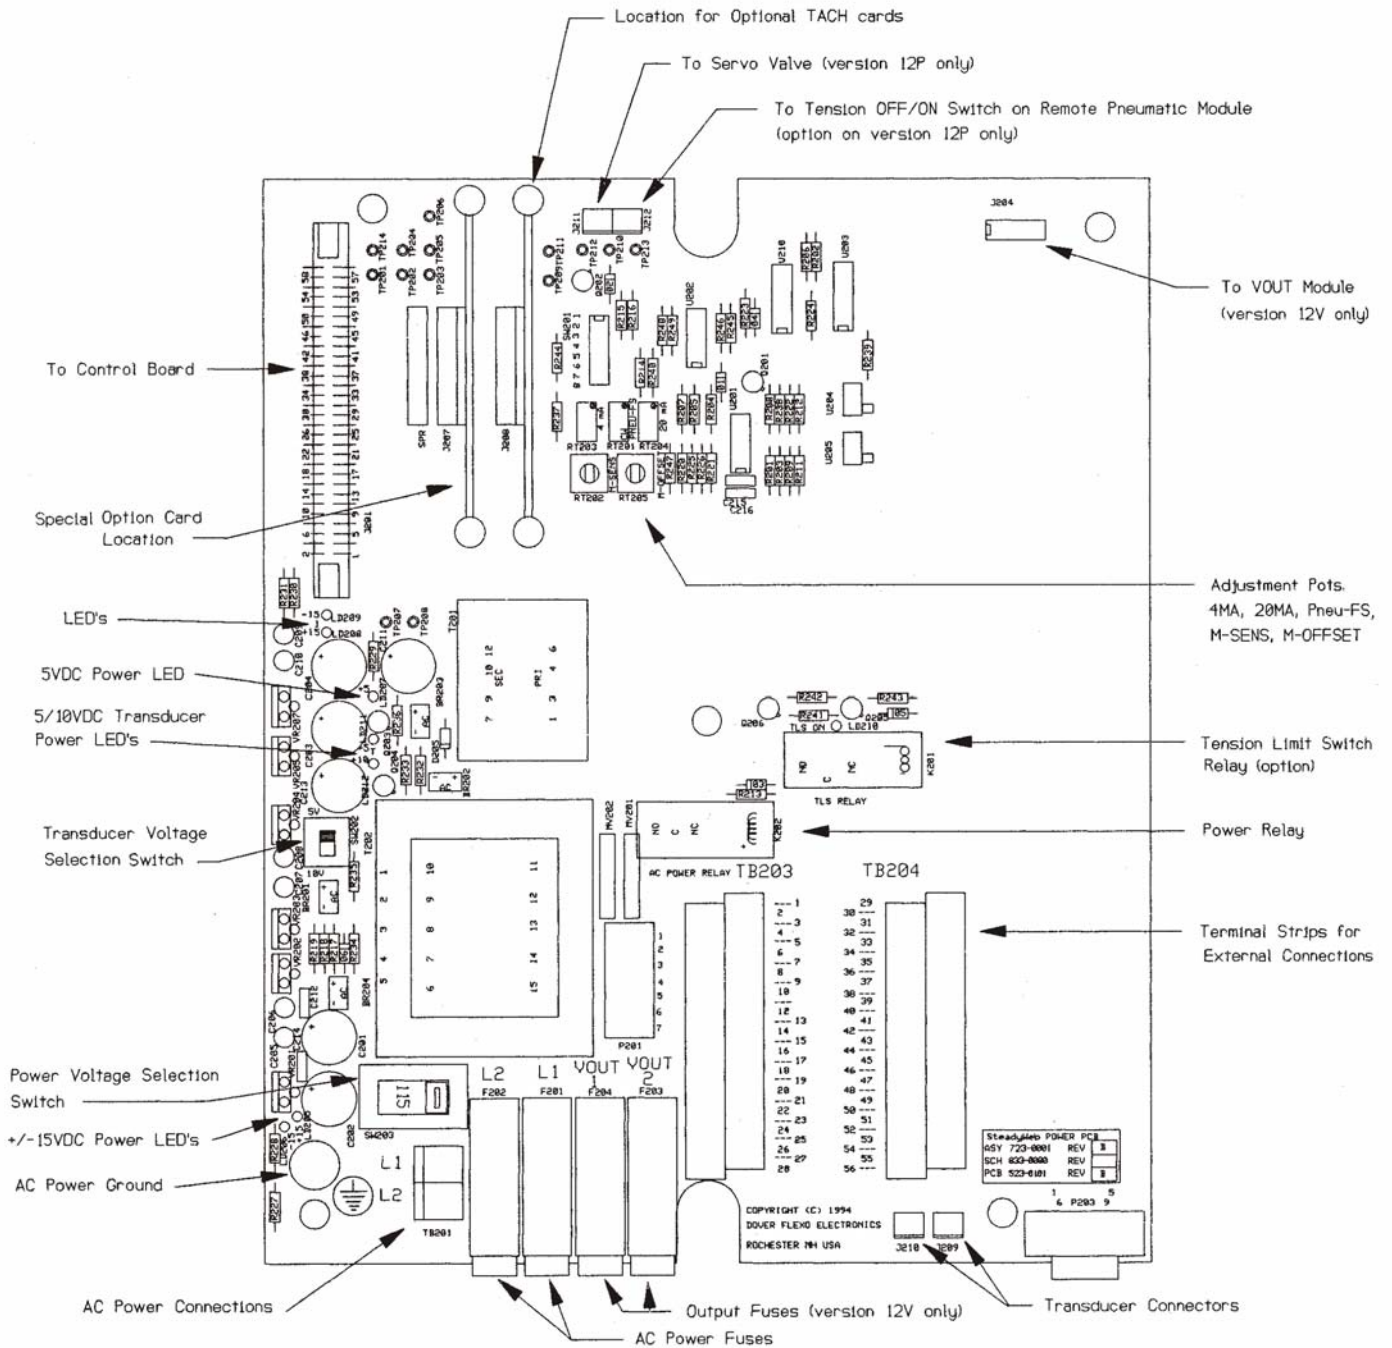

Figure 17 - POWER BOARD
5.3 POWER VOLTAGE SELECTION (See Figure 17, page 22)
(See Page 4 for description, Figure 17 for switches)
5.6 EMERGENCY STOP (See Page 4 for description, Figure 17 for switches)